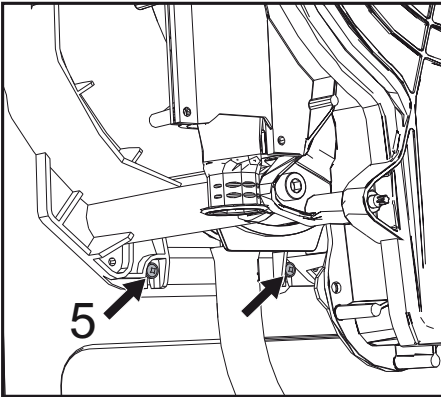

fig. 49
- Loosen the 2 **bottom screws "5"** securing the exchanger to the frame (fig. 49)